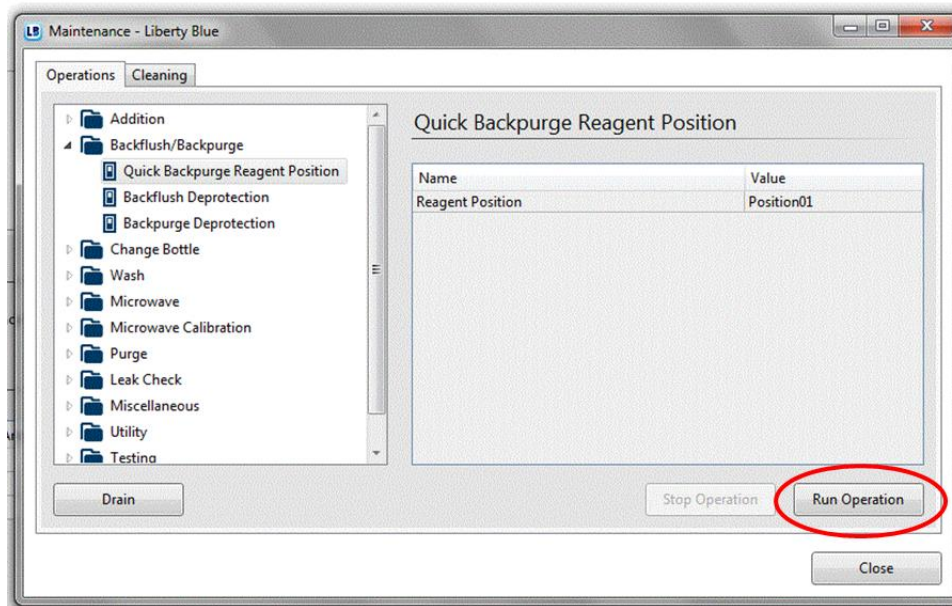

Figure 19. Quick backpurge will blow nitrogen gas through the line to clear it of liquid.
- b. Open *Operations* ⇒ *Quick Backpurge* back purge each position and add the AA tube in turn. (Figure 19)